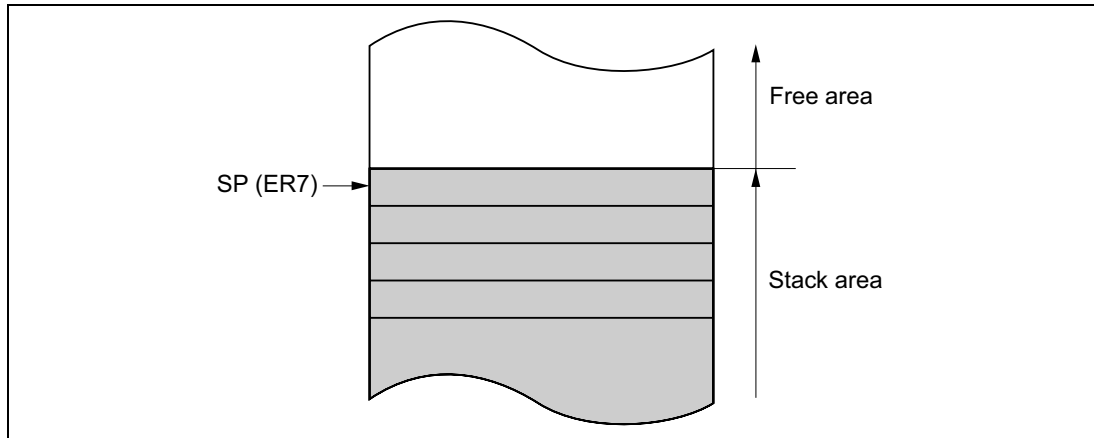

Figure 2-6 Stack
General register ER7 has the function of stack pointer (SP) in addition to its general-register function, and is used implicitly in exception handling and subroutine calls. Figure 2-6 shows the stack.